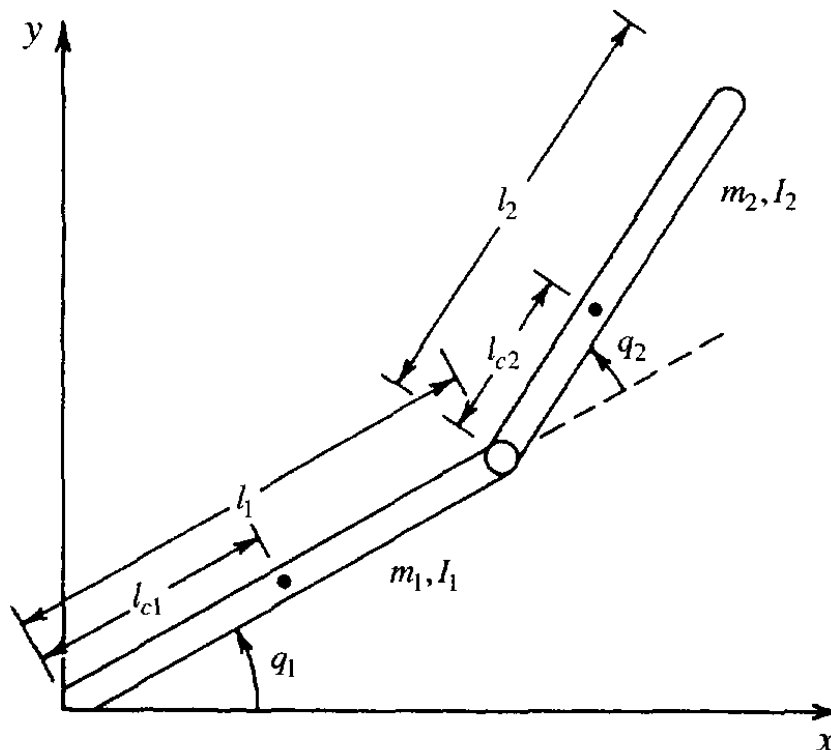

Figure 1: The acrobot (image taken from [2, 1]); torque input τ at elbow not shown).
2.1 Non-collocated Partial Feedback Linearization (PFL) control for the acrobot. In class, we looked at MATLAB simulation results for *collocated* PFL control of the acrobot (Figure 1), as outlined in Spong [2]. Download two m-files from the course homework website: `acrobot_collocated_linearization.m`, which solves the equations of motion (EOMs) for the system *with collocated PFL control*, and `acrobot_animate.m`, which will allow you to animate the motion. You can then run a simulation using the following MATLAB commands: